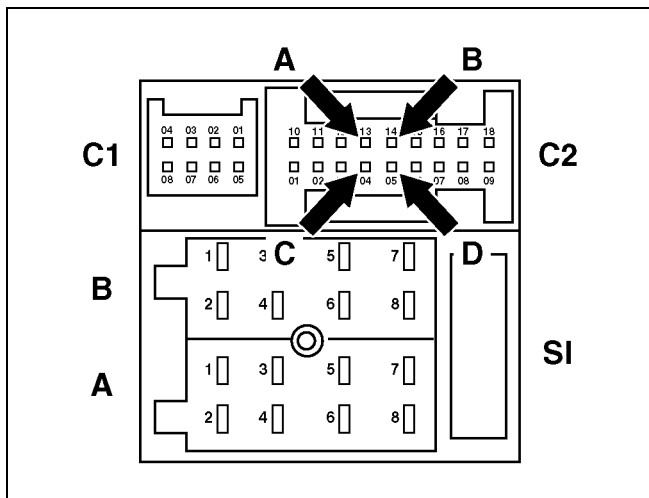

Figure 8
- a) Thin-gauge black wire into pin-13 (A, Figure 8)
- b) Thick-gauge black wire into pin-14 (B, Figure 8)
- c) Yellow wire into pin-04 (C, Figure 8)
- d) Brown wire into pin-05 (D, Figure 8)